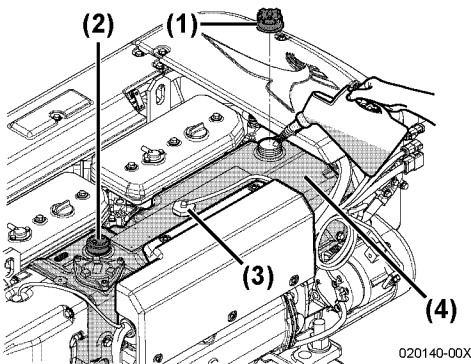

Figure 10
2. Loosen the filler cap (**Figure 10, (1)**) of the coolant tank to relieve the pressure, then remove the filler cap. **WARNING! NEVER remove the coolant filler cap if the engine is hot. Steam and hot engine coolant will spray out and seriously burn you. Allow the engine to cool down before you attempt to remove the cap.**
3. **NOTICE:** NEVER pour cold coolant into a hot engine. Pour coolant slowly into the coolant tank (**Figure 10, (4)**) to avoid air bubbles. Fill until coolant overflows from the filler port.